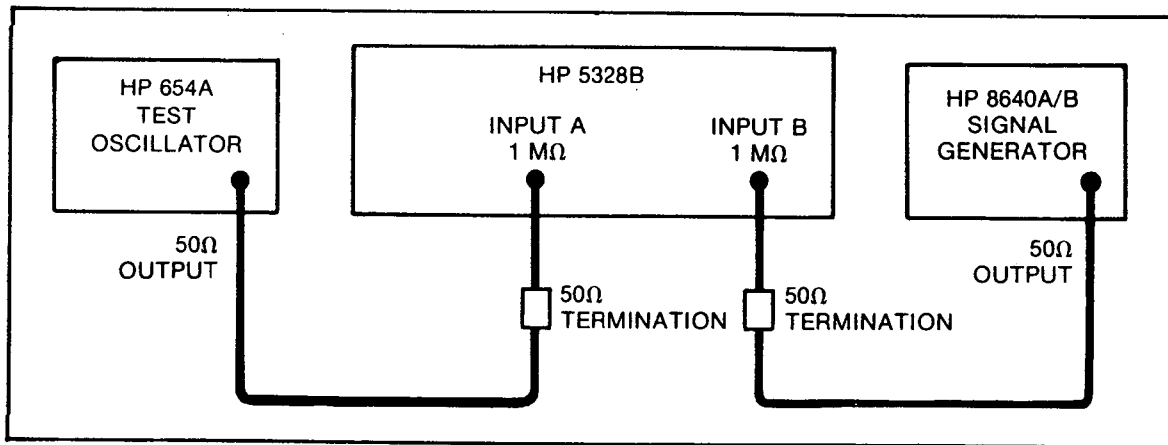

Figure 4-10. Channel B Frequency Response and Sensitivity Test Setup, 10 MHz to 100 MHz
- 1) Set up equipment for this test as shown in Figure 4-10.